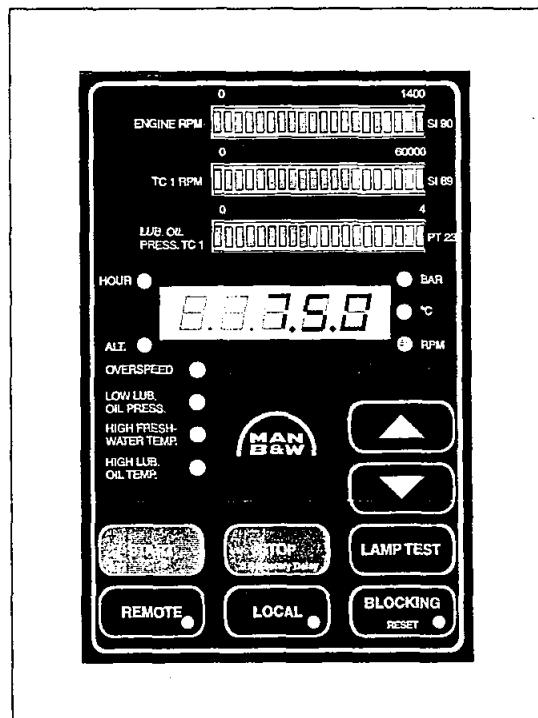

Fig 3 Operation box (OB).
- 16) Start the engine by activating the start button on the operation box; push the button until the engine ignites, see Fig.3.